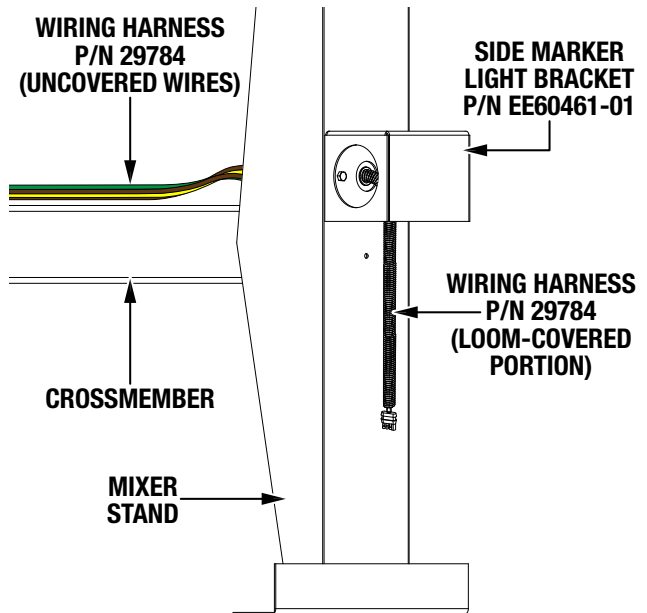

Figure 12. Harness Routing
1. A portion of the wiring harness (P/N 29784) is contained within a loom. Route the harness through the bushing (P/N 32975) in the mixer stand so that the loom-covered portion of the harness extends from the bottom of the side marker light bracket (P/N EE60461-01), and the uncovered portion of the harness lays on top of the crossmember. See Figure 12.